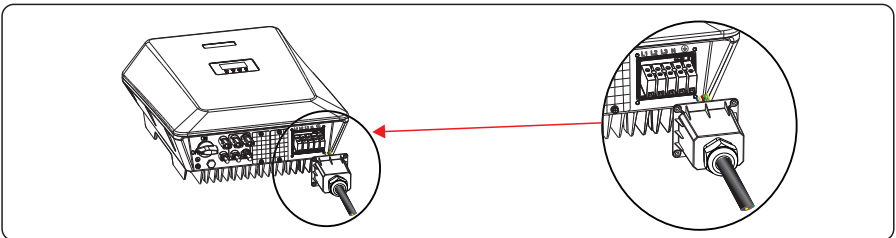

Figure 5.6 Dealing AC output cable
**Step 3** Insert AC output wire through waterproof terminal block to AC connector reserving appreciate wiring length shown in Figure 5.6.